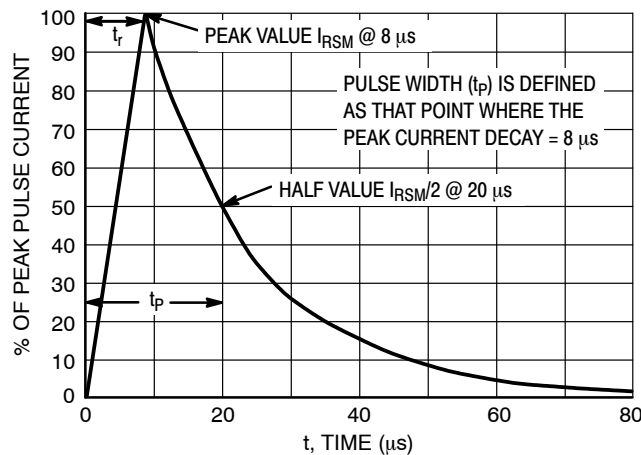

Figure 5. 8 x 20 μ s Pulse Waveform
1. Nonrepetitive current pulse per Figure 5 (Pin 5 to Pin 2).
- Nonrepetitive current pulse per Figure 5 (Pin 5 to Pin 2).
- Surge current waveform per Figure 5.